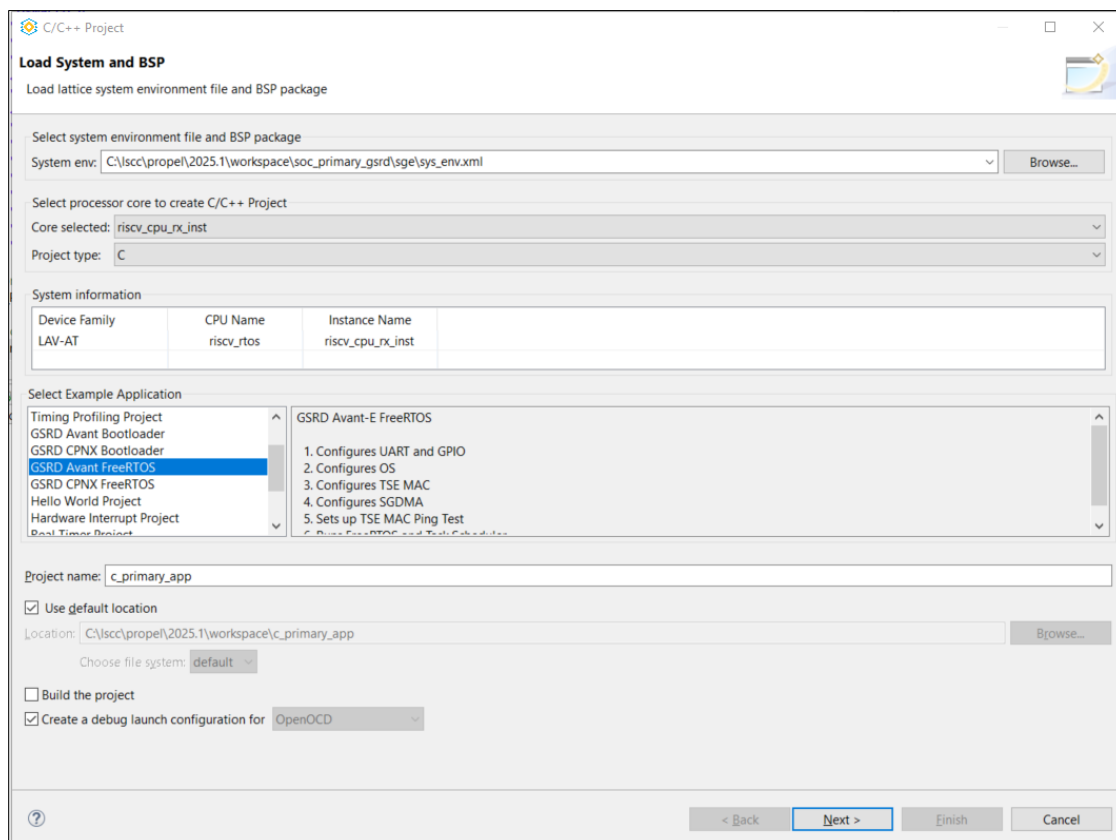

Figure 7.35. FreeRTOS C/C++ Selection
2. In the *Select Example Application*, select the **GSRD Avant FreeRTOS** project. Provide the project name as shown in Figure 7.35.